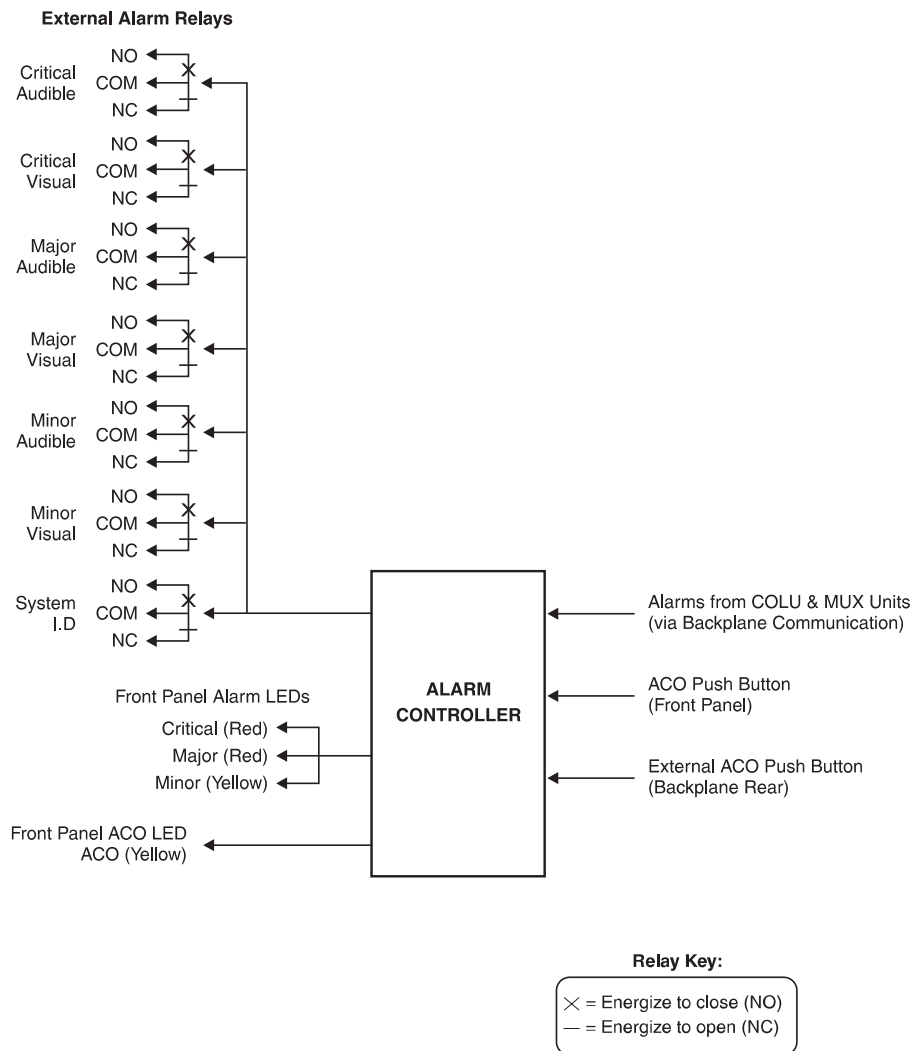

Figure 5 Alarm Relay Contacts from PAU to Wire-Wrap Field
The COTS provides access to the PG-Plus Alarm Unit (PAU) alarm relays by way of wire-wrap pins on the shelf backplane. Both normally open (NO) and normally closed (NC) relay operation is supported. Figure 5 shows the configuration of the alarm relays.